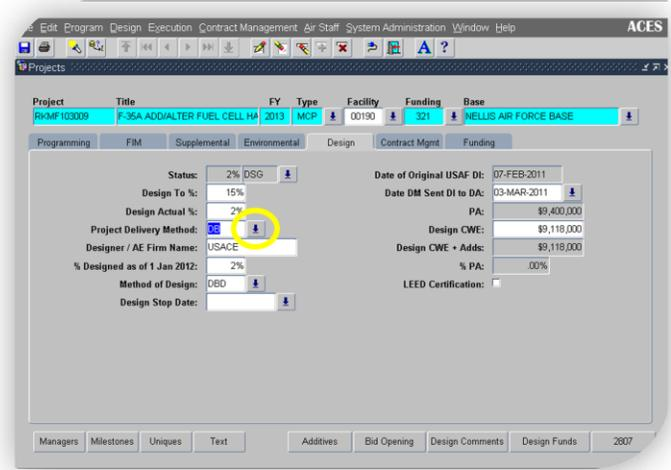

Figure 3.13. Project Delivery Method
Project Delivery Method - Programmers use experience and often communicate with the PDT to determine the best project delivery method to execute the project and update the Project Delivery Method field. When HAF issues a DI, the PDT validates the method selected is still appropriate and updates the Project Delivery Method field (Figure 3.13) as required. Although Design Build (DB) methods vary, for this requirement, we will not distinguish between the different types.